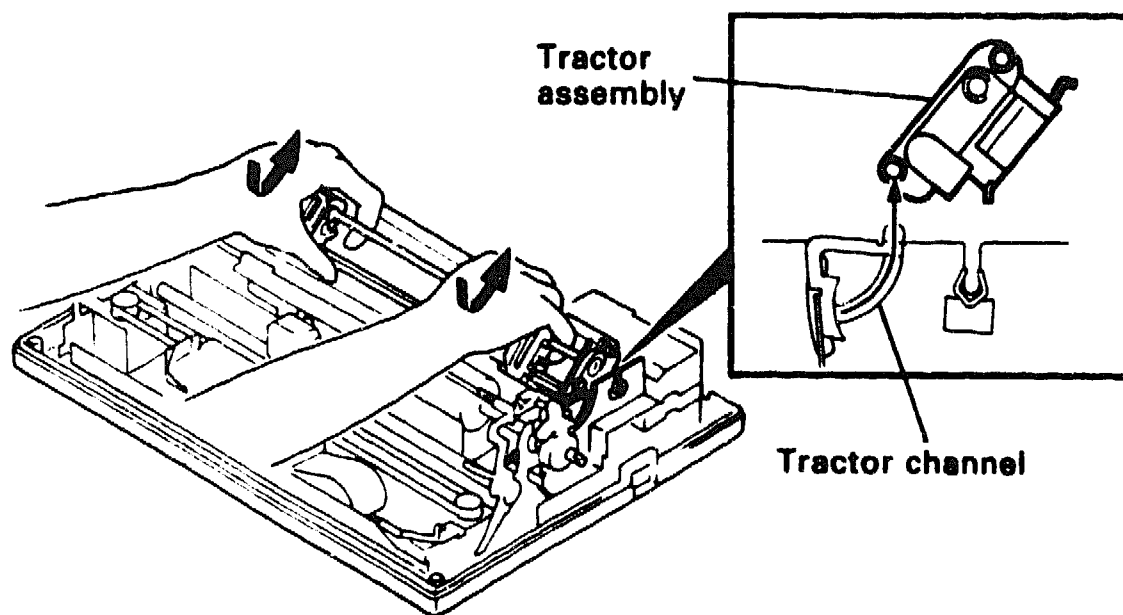

Figure 6-16 Removing the Tractor Assembly (2)
3. Remove the tractor assembly by guiding the front tractor bushings through the exit tractor channels (Figure 6-16).